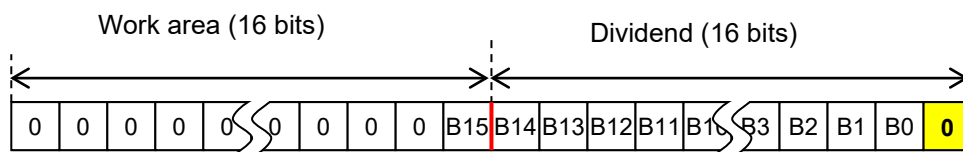

Figure 3.3 Preparation of subtraction
- (2) In subtraction processing, a dividend and work area is shifted 1 bit to the left at a time first as the preparation of subtraction. The MSB of dividend is set to the LSB of work area, and the LSB of dividend becomes 0. (Refer to Figure 3.3). The LSB of dividend is used as an area for the quotient in order to obtain the efficiency of processing and domain.